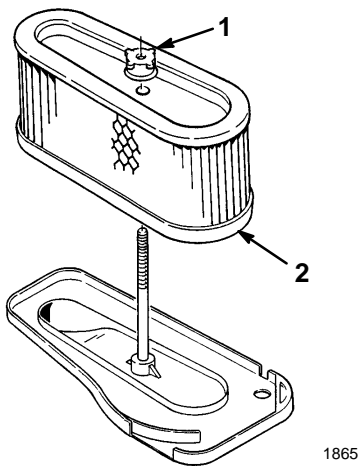

Figure 28
5. Unscrew the rubber nut and remove the paper element (Fig. 28).
2. Slide the air cleaner assembly onto the long rod. Now screw the rubber nut finger-tight against the air cleaner (Fig. 28).